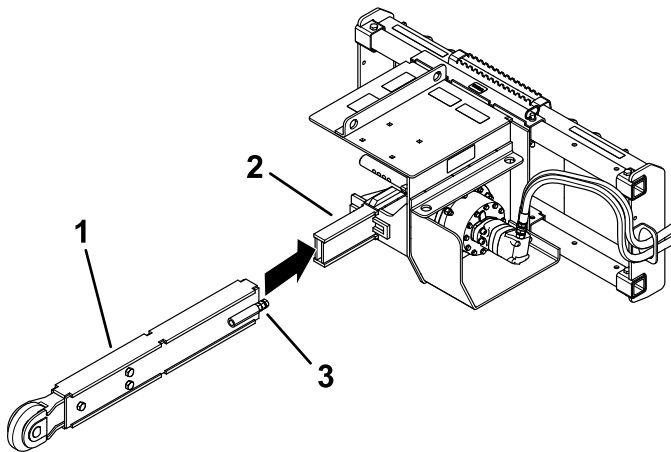

Figure 11
3. Loosen the jam nuts and move them to as close to the head of the tensioning bolts as possible (Figure 11).
5. Remove the boom, flip it over so the bottom becomes the top (or if you have already flipped it once, replace it), and install the boom again (Figure 11).
5. Loosen the jam nuts and move them to as close to the head of the tensioning bolts as possible (see Figure 11).